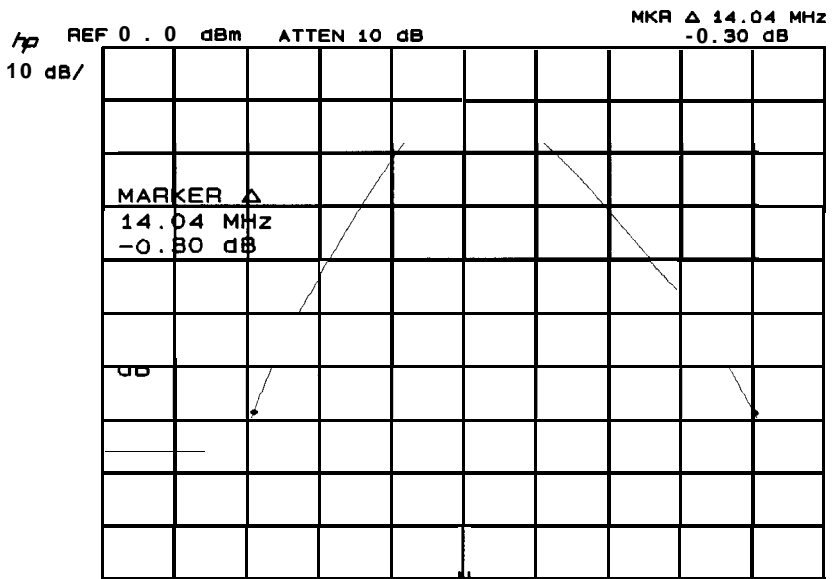

Figure 4-5. 60 dB Bandwidth Measurement
5. Read the 60 dB bandwidth for the 3 MHz resolution bandwidth setting from the **MARKER** **(Δ)** frequency readout (see Figure 4-5) and record the value in Table 4-5.